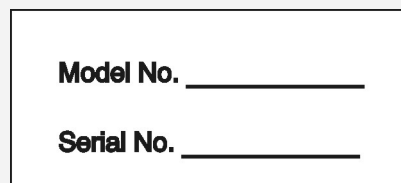
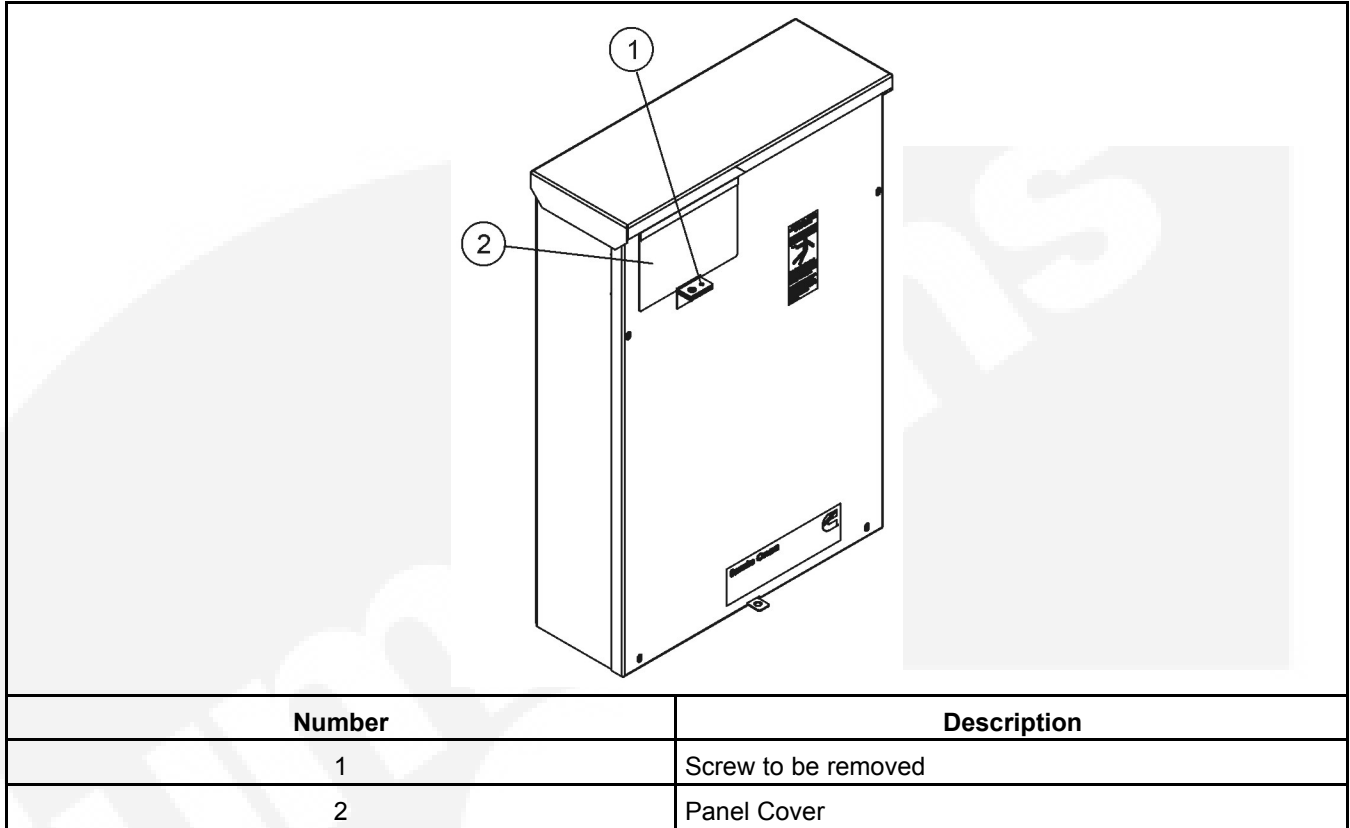

FIGURE 9. MODEL AND SERIAL NUMBER LABEL
FIGURE 10. OPERATOR PANEL COVER
- For models with a controller, a model and serial number label, see Figure 9 is located on the back of the controller cover. To view the label, remove the screw securing the controller cover and open the cover, see Figure 10.